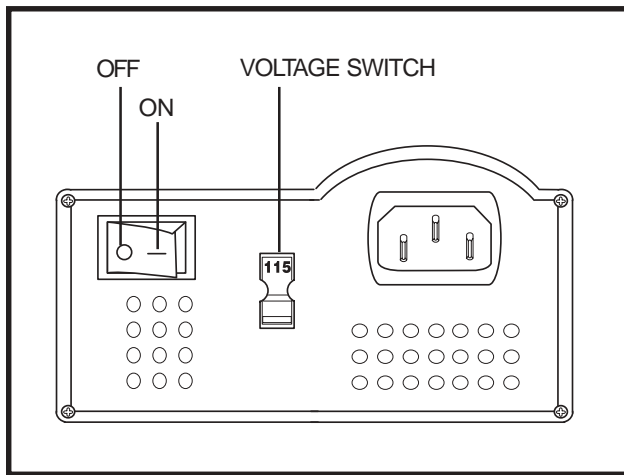

Figure 10. Charger On/Off and Voltage Switches
The off-board charger supplied with your scooter is equipped with a 115/230 voltage switch. Confirm that this switch is in the proper position for your locality. If you are not sure what the voltage is in your country, contact your local electricity provider before inserting the charger power cord plug into your electrical outlet. If the setting is incorrect, the charger will not function properly. Slide the voltage switch to the appropriate position. **See figure 10.**
4. Make sure that the charger's on/off switch is in the OFF position. **See figure 10.**